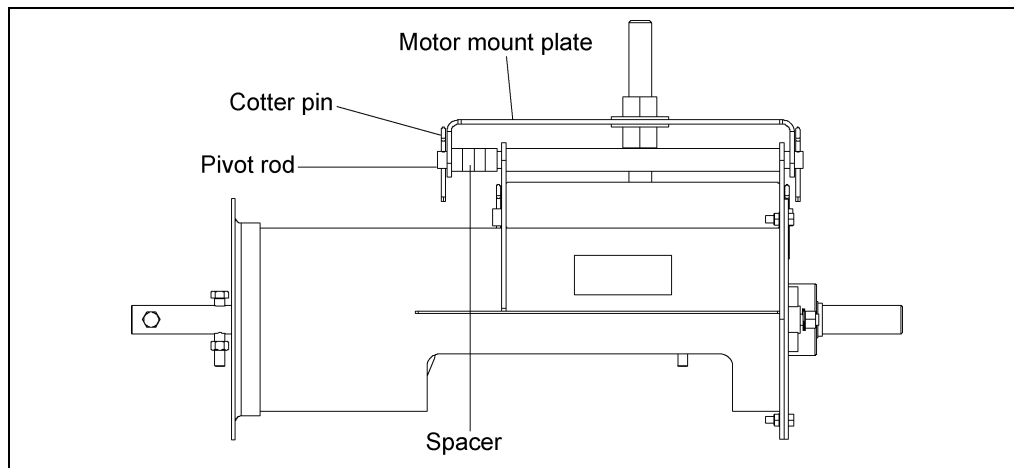

Figure 4F
- When the pivot rod begins to extend through the pivot tube install the spacers, BETWEEN the back plate and the inner face of the motor mount plate. (See Figure 4F.)